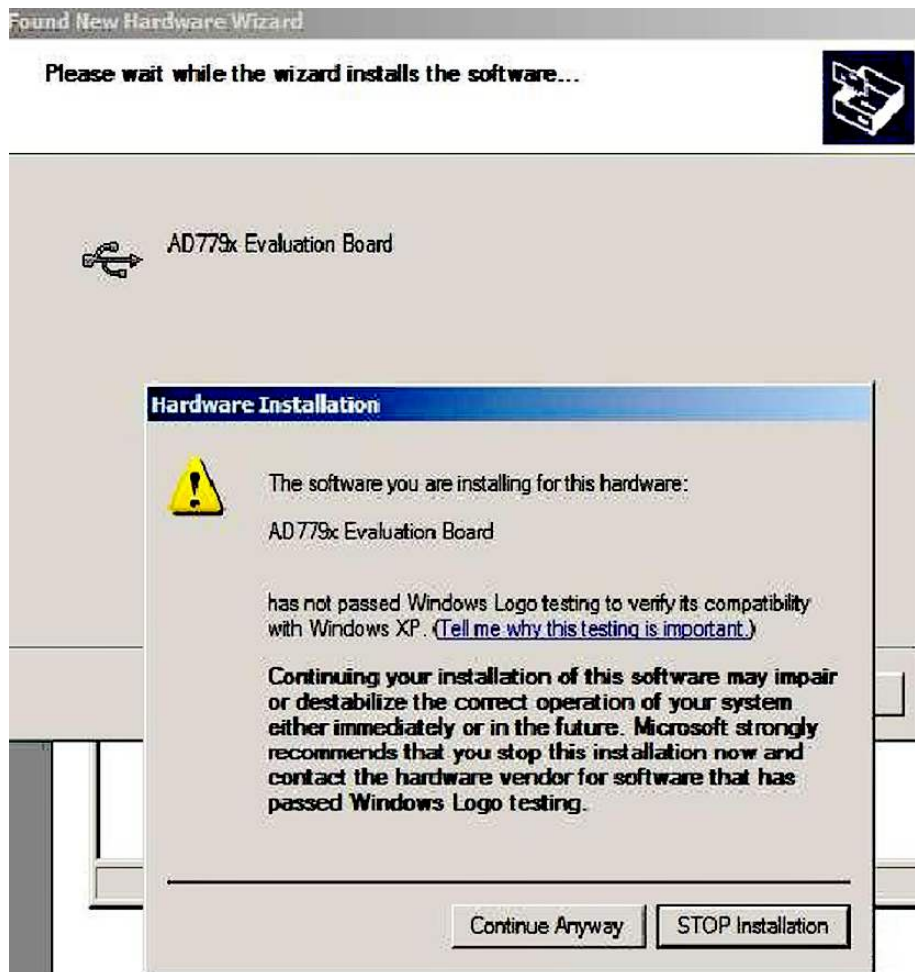

Figure 2. Hardware Installation Window
3. Follow the on-screen instructions that appear automatically. If the **Hardware Installation** window shown in Figure 2 appears during the installation process, click **Continue Anyway** to successfully complete the installation of the AD7799 evaluation board.